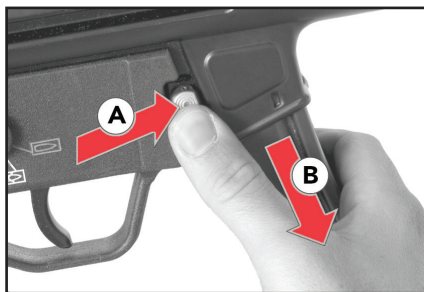

Fig. 29 – Remove the magazine
2. Remove the magazine. Depress the magazine release button on the right side of the receiver (Fig. 29-A) or paddle on the SP5. Remove the magazine from the magazine well (Fig. 29-B).